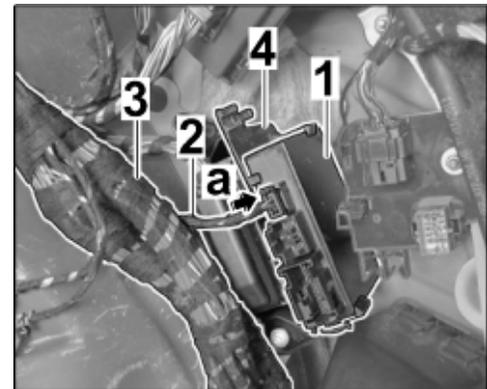

Figure 5
2.2.1 Clip trailer hitch control unit into bracket (⇒ Figure 5)
2.2.3 Connect plug connection for trailer hitch preparation to the control unit (⇒ Figure 5 -a-).